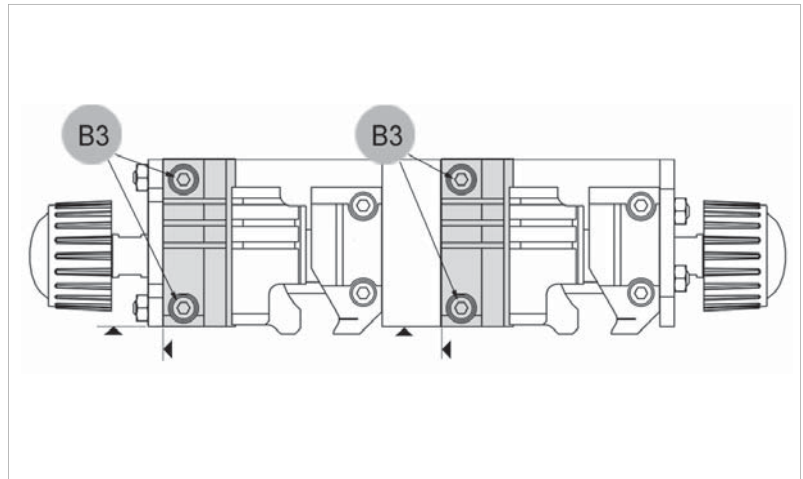

Fig. 83
- 2) Fit the new jaw up against the left-hand side and align also from the front (Fig. 83).
- 6) Fit the stationary jaw up against the left-hand side and align also from the front (Fig. 83).